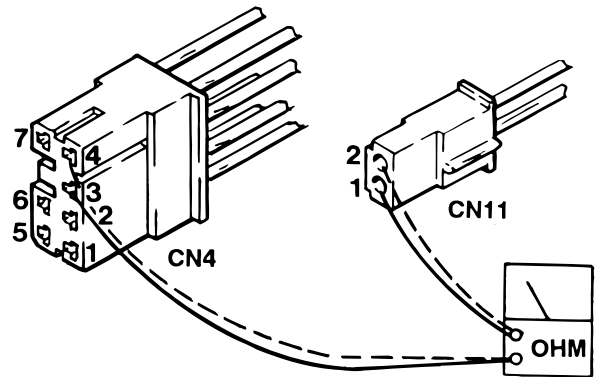

Figure 6-18
2. Using an ohmmeter, test for continuity between pins 3 and 4 of CN4 and pins 1 and 2 of CN11. See figure 6-18.